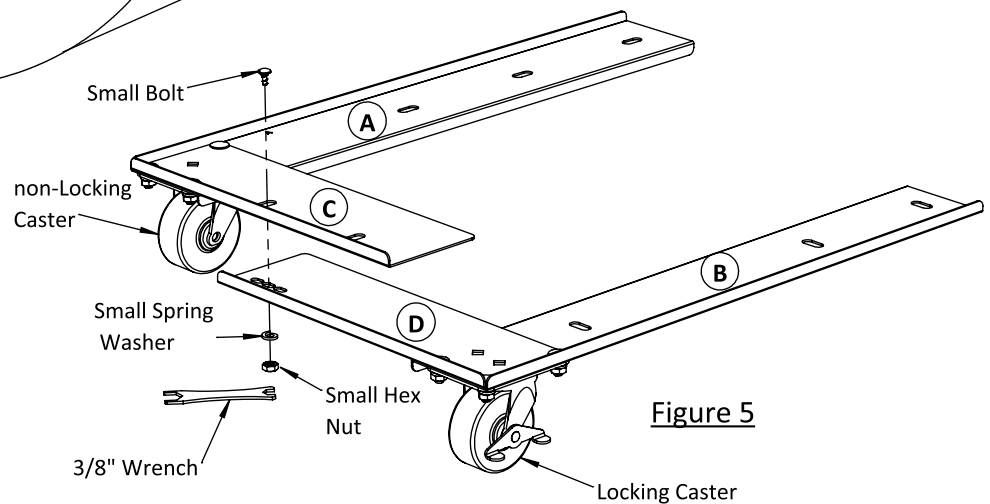

Figure 5
7. Locate the A and C sub-assembly with the non-Locking Caster and the B and D sub-assembly with the Locking Caster. With rail C on top of rail D, align the holes to the corresponding depth of your cabinet, and secure together using one Small Bolt, Small Locking Washer, and Small Hex Nut. **Figure 5**